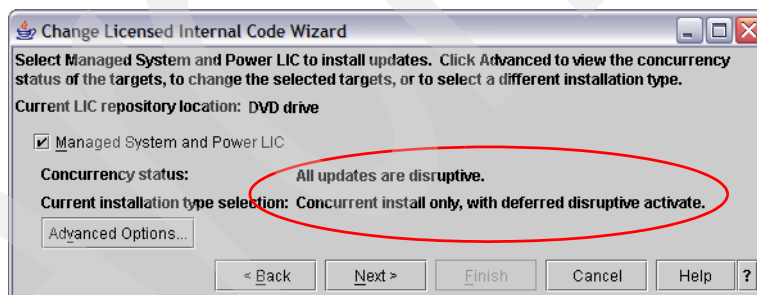

Figure 14-37 Change Licensed Internal Code Wizard screen
9. The Change Licensed Internal Code select install updates is shown (Figure 14-37). This screen displays the type of concurrency installation to be performed.
We click **close** and then **OK** to return back to the original screen shown Figure 14-37. Click **Next** to continue with the Change Licensed Internal Code wizard.